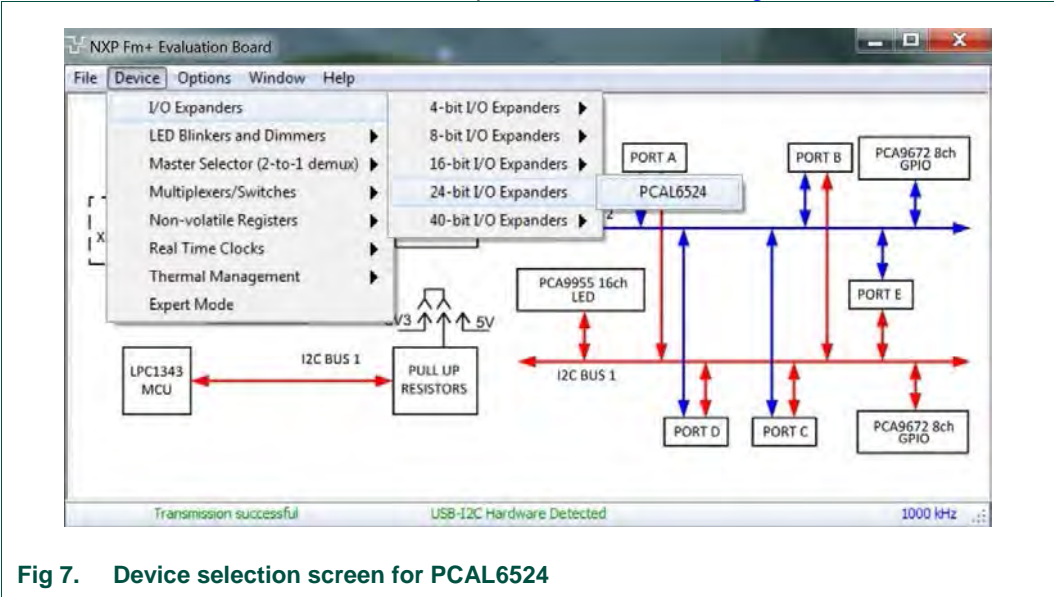

Fig 7. Device selection screen for PCAL6524
- 1. Select 24-bit PCAL6524 from I/O Expanders as shown in Fig 7.
| Fig 7. | Device selection screen for PCAL6524..... | 11 |